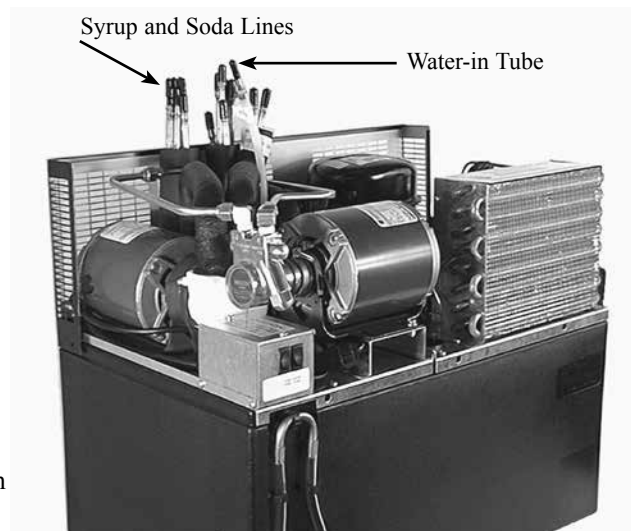

Fig. 4 Connection of Water in Line
- Connect water supply to the 3/8” barb of the fitting of the water-in tube. (see fig. 4, Labeled Water Supply)
- Connect syrup out lines (3/8” male barb) to a color-coded conduit. (Note which numbered line goes to which colored tube.) (see fig. 4)
- Connect the recirculating soda line (3/8” tubing) to the barbed fitting coming from the insulated pump. (see fig. 4) Labeled “Soda Return”.